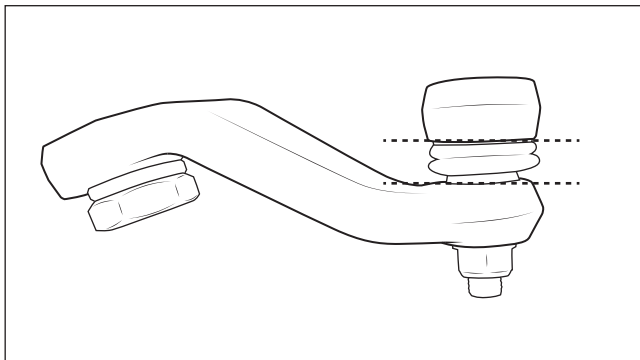
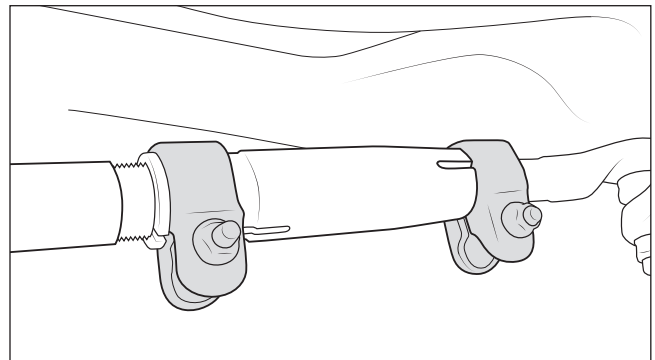

Figure 36
Figure 37
- d. Re-check length measurement and adjust as needed. **Make sure tie rod end at pitman arm is clocked parallel to pitman arm surface. Not doing so will cause bind and potential damage during steering and suspension movement** (fig. 36). Tighten both adjuster clamps to **40 ft-lbs** (fig. 37).